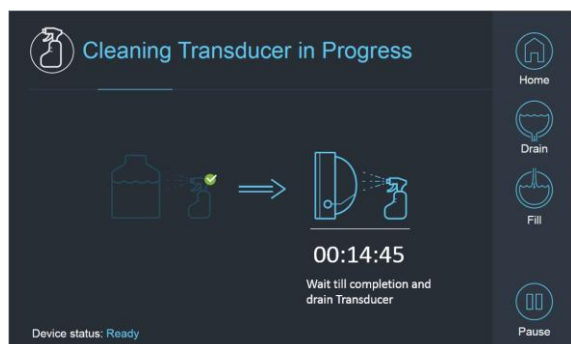

Fig. 3A: "Cleaning Transducer in Progress" Screen Fig. 3B: "Cleaning Transducer Complete" Screen
- ☐ Start the "Cleaning Transducer" timer by pressing the "Start" button  on the Screen (Figure 3A) or on the Water System Remote Controller